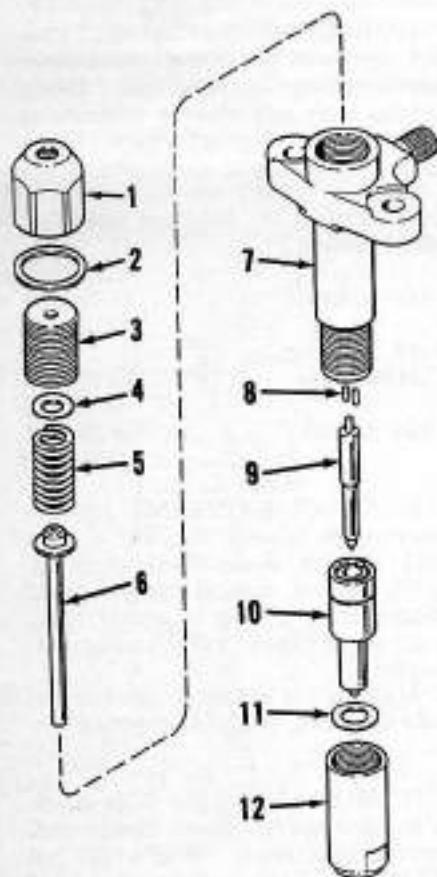

Fig. 89—Exploded view of Lucas fuel injector used on 1190, 1290, 1390 and 1990 models. 1490 models use a CAV injector of similar construction.
To disassemble a faulty injector clamp body in holding fixture or soft jawed vise with only enough pressure to keep injector from slipping. Remove cap (1—Fig. 89) and washer (2). CAV injectors have a locknut which is removed next. On all injectors back off pressure adjusting screw (3) until all tension is removed from pressure spring (5). Remove nozzle retaining cap (12) and nozzle (10). Remove nozzle (10) from retaining cap (12) and needle (9) from nozzle. Place in approved cleaning solvent. Remove adjusting screw (3), using care not to lose shim (4). Remove spring (5) and spindle (6). Place in cleaning solvent.
Clean all parts using clean diesel fuel and install needle (9—Fig. 89) into nozzle (10). Place washer (11) on nozzle (10),
Install sealing washer, (and locknut on CAV injectors), and cap (1—Fig. 89).